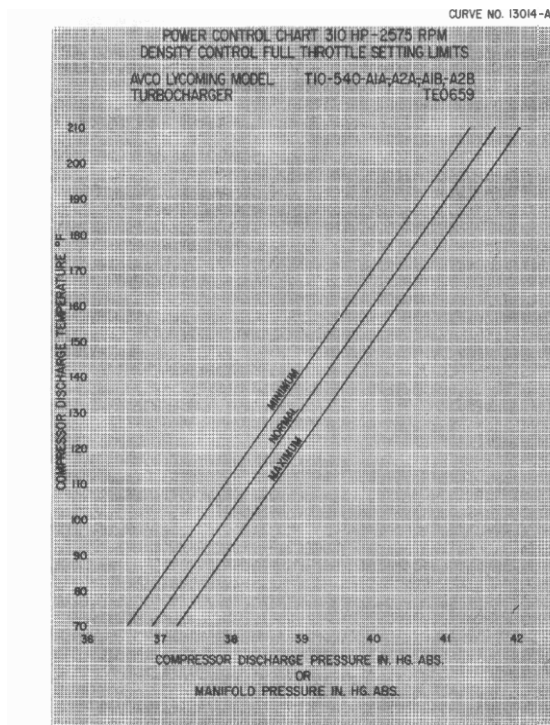

Figure 6. TIO-540-A1A, -A1B, -A2A and -A2B Induction Air Temperature vs Manifold Pressure
4. Check Induction Air Temperature with Manifold **Pressure**: Note both engine manifold pressure and compressor discharge temperature at full throttle and compare with the chart shown in figure 6 for